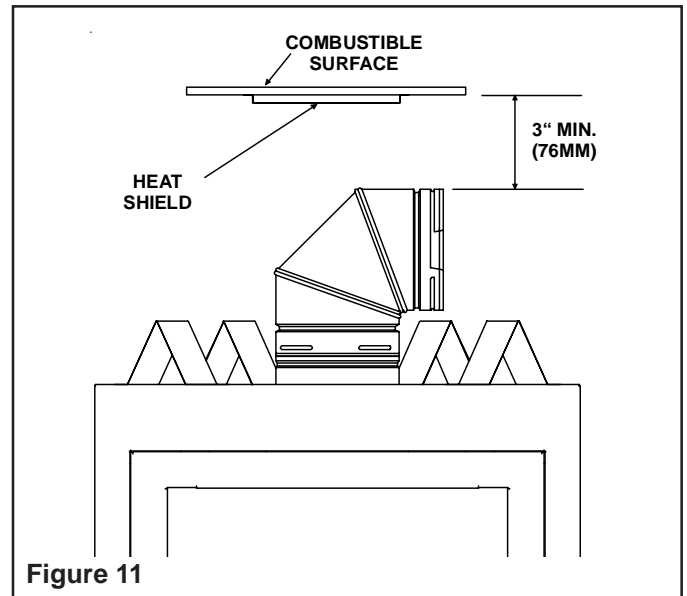

Figure 11
1. Determine if the heat shield is required. Do so by measuring the vertical distance between the top horizontal surface of the elbow to any combustible surface above. If the distance is more than 4 inches, the heat shield is **NOT** required. If it is 4 inches or less, the heat shield **IS REQUIRED**. Install per the following steps. See Figure 11.